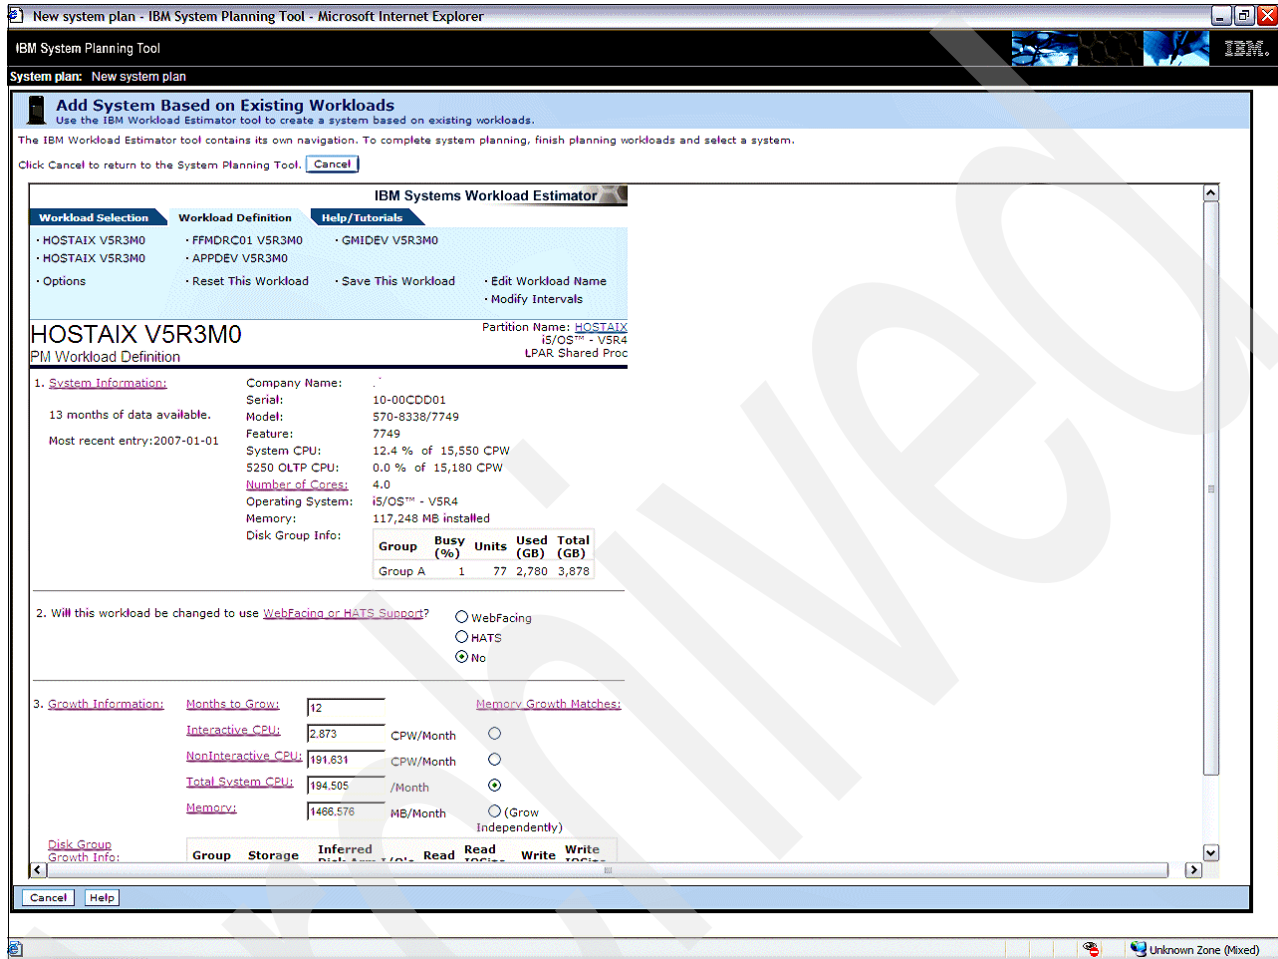
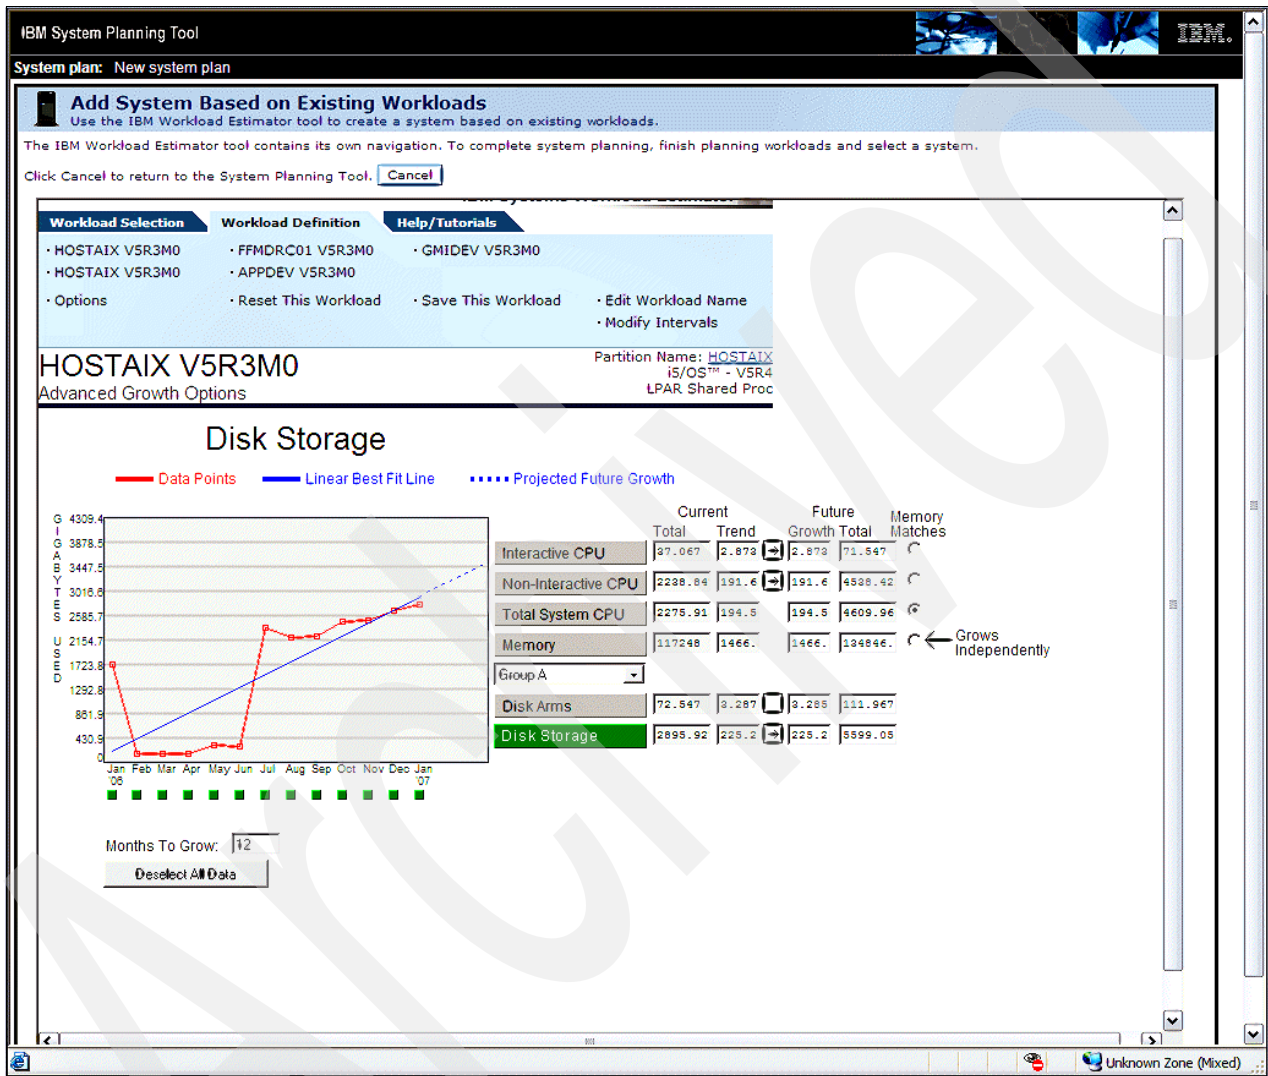

Figure 5-8 Partition data
Figure 5-9 Data graph
6. The detail data of each partition is shown. This data can be modified to reflect a heavier workload on CPU, interactive, memory, and disk. Figure 5-8 shows the fields that can be changed. The data point reflects the current trend data on a graph. If the trend is negative, the field shows a negative value. This can be a problem in the growth system that is projected. You need to understand whether workload or disk are being removed.
In our example, several PM for System i workloads have been imported and we have processed WLE screens up through the last workload (HOSTAIX V5R3M0) window. At the bottom of this WLE window there are four buttons available (not shown in Figure 5-8):
Before doing that, however, we show you an example of WLE's Advanced Growth Options window (Figure 5-9) and Detailed Data window (Figure 5-10 on page 159).
The data point reflects the current trend data on a graph. If the trend is negative the fields show a negative value. This can be a problem in the growth system that is projected. You need to understand whether workload or disk are being removed. You see the relationship of the data in Figure 5-8 on page 157 and the data in Figure 5-9, which can help to make a determination if the data needs to be changed. To return click **Continue**.